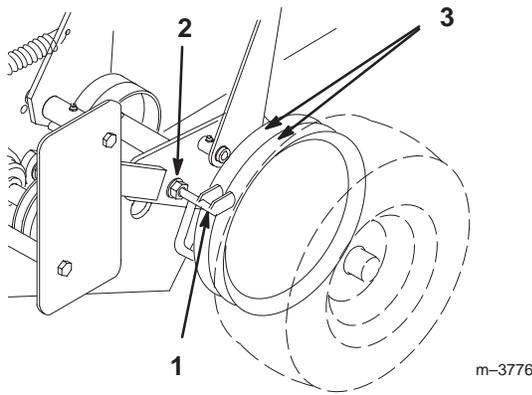

Figure 49
1. Loosen the locknut holding scraper to the engine frame (Fig. 49).
2. Rotate scraper until they align with center of pulley grooves (Fig. 49).
3. Tighten the locknut (Fig. 49).